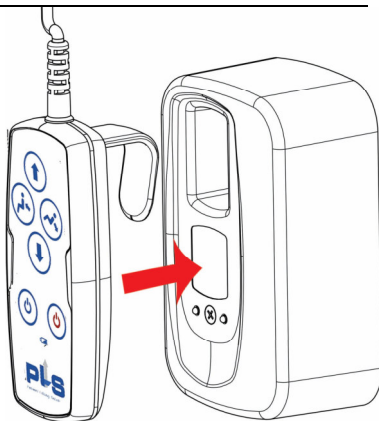

Figure 7, handset in wall charger
1. Place the handset in the wall holder (*Figure 7, page 12*).